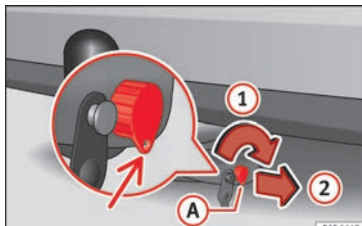
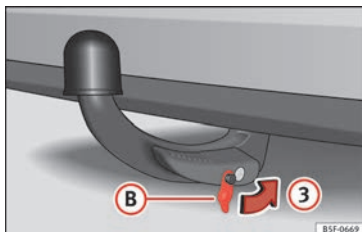

Fig. 213 Locking the lock.
Fig. 214 Placing the cover over the lock.
- Turn key (A) in the direction of arrow (1) until the part of the key with the holes reaches the bottom position » Fig. 213.
- Remove the key in the direction of arrow (2).
- Place cover (B) in the lock in the direction of arrow (3) » Fig. 214 » 1.